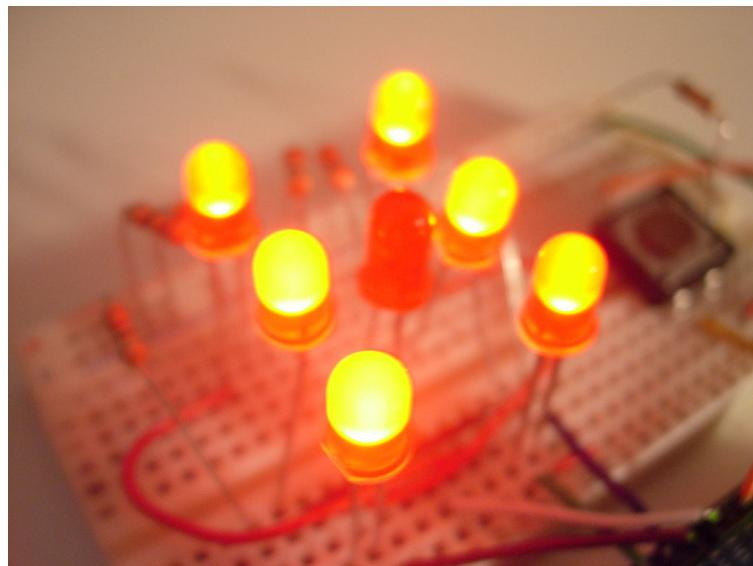

Figure 7– An LED dice
- c) Now try and create a single LED dice (see Figure 7).